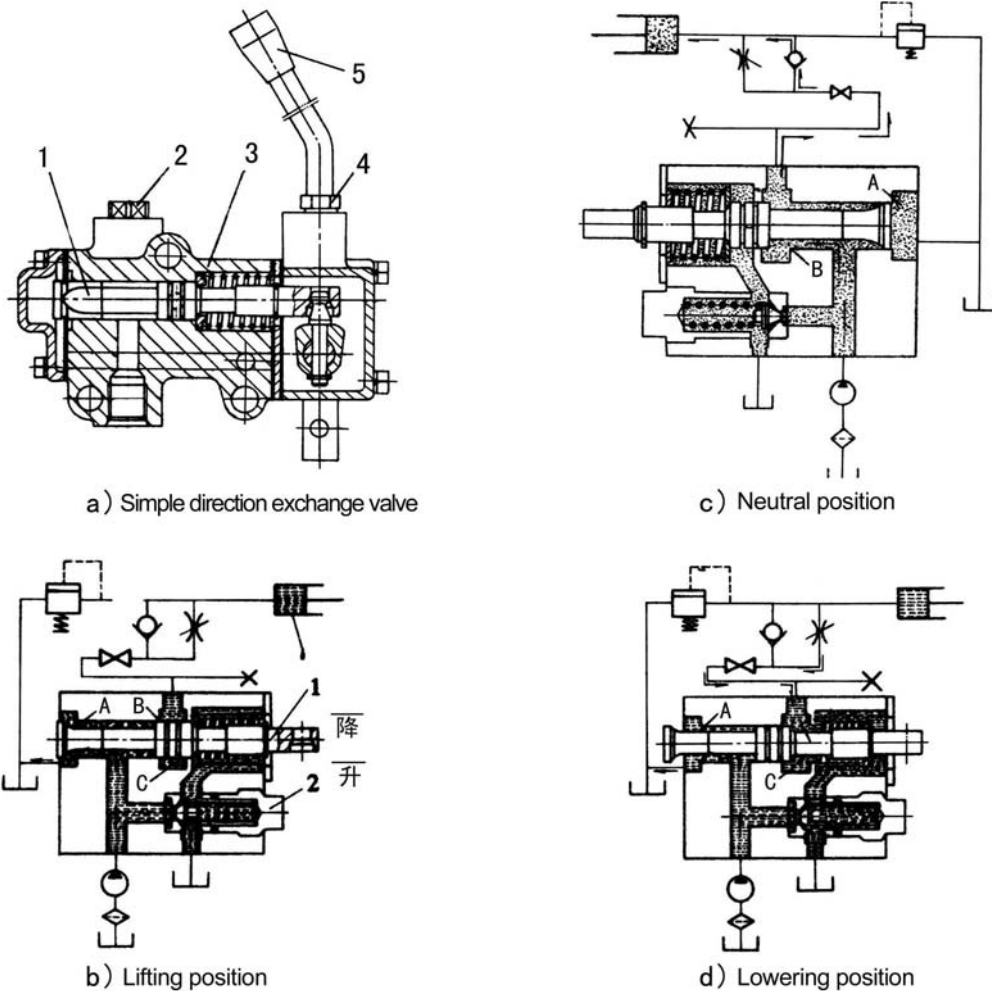

Fig.4-19 Simple direction exchange valve and its working principle
The structure and working principle of the simple direction exchange valve is as Fig.4-19.
through returning oil cavity A according to the flow direction designated by the arrow of the Fig4-19(b). Then the entering oil cavity B and returning oil cavity C of the cylinder are sealed by main control valve (1); the oil cylinder is on seal and lock condition, and the implements are maintained in the fixed position.